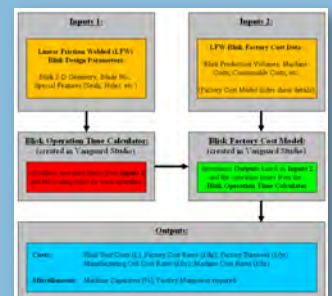

Figure 4 - Data entry flow chart.
- Figure 4 shows the flow chart that the user follows to enter the values of key blisk design variables (Inputs 1) and data from the blisk factory simulation (Inputs 2). The factory cost rate as well as the unit cost of the blisk can then be predicted.